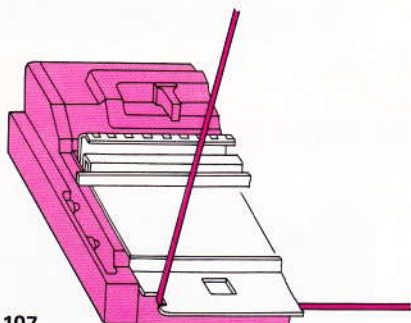

Fig. 107
- Take yarn A out of yarn-guide and leave at end of left side of needle bed (fig. 107),